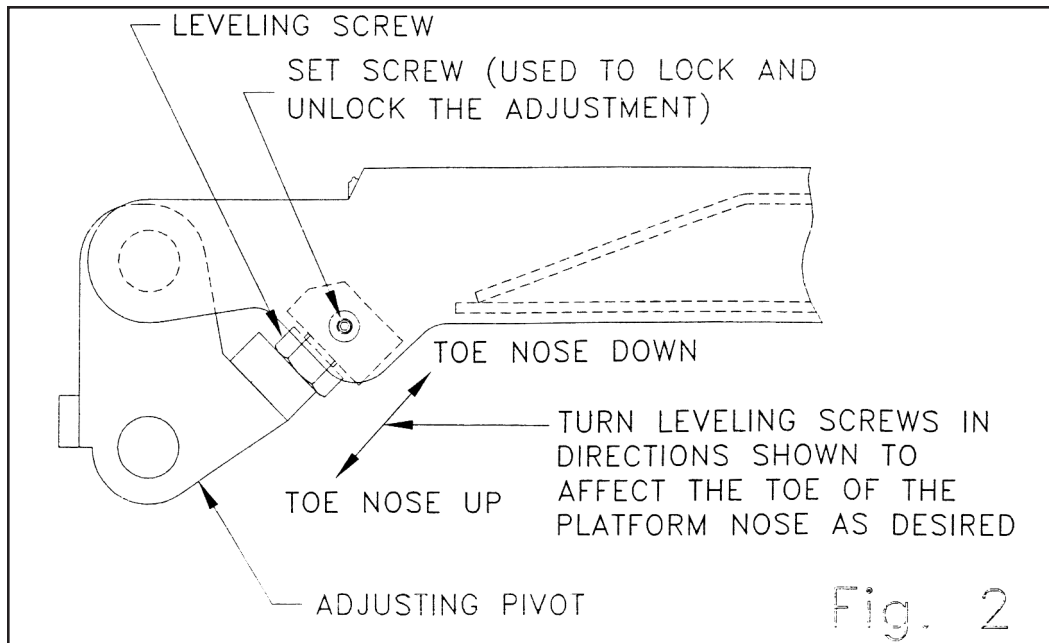

Fig. 2
2. Check that when the truck is on level ground and the platform is in its “leveled” and unloaded position that the entire load surface is leveled or toed up at the ramp tip so that when the usual load is placed on it, it becomes leveled under load. For instructions on adjusting leveling screw and platform toe see figure 2.